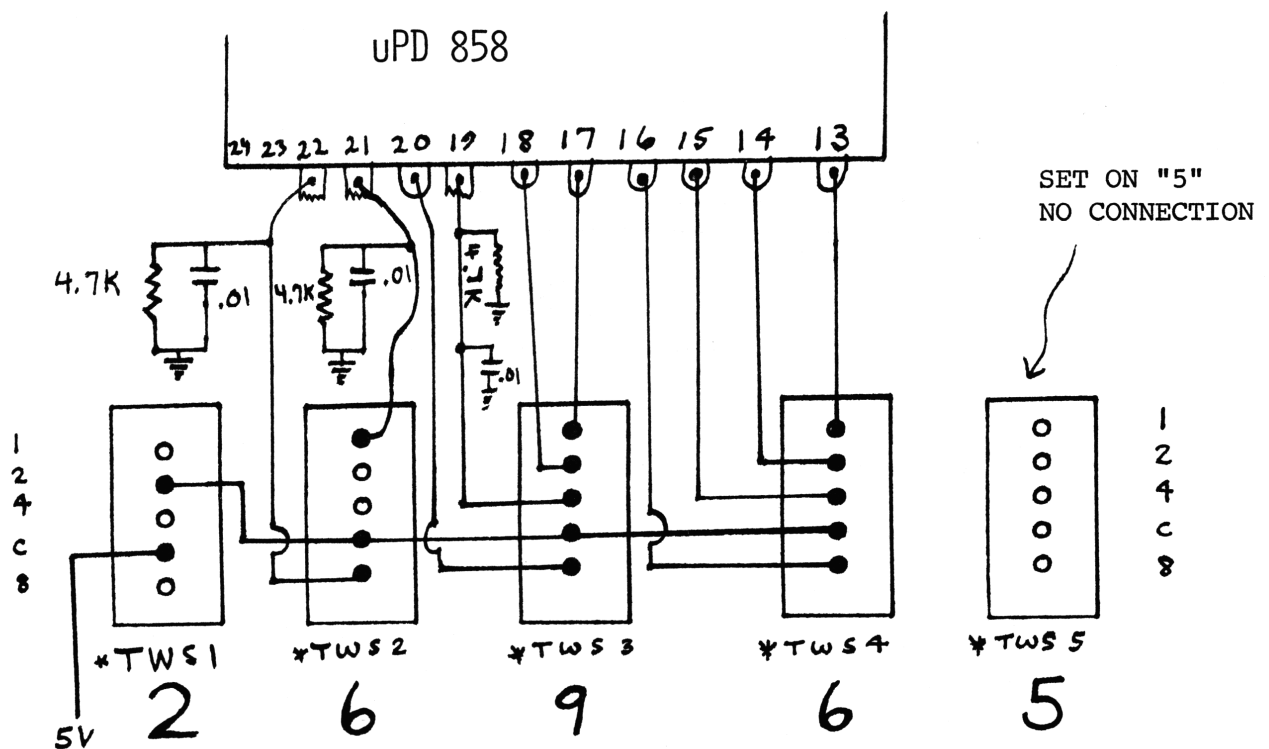

FIGURE 1
1. Wire up five 10 position BCD type thumbwheel switches* as shown in FIGURE 1.